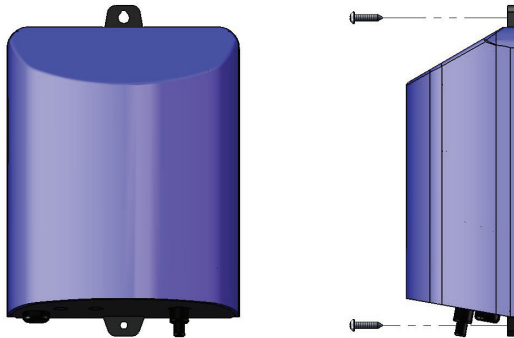

Figure 1: Wall Mount
- Install at least 5 feet (1.5 meters) from wall of pool. Install ozone generator no less than one (1) foot above maximum water level to prevent water from contacting electrical equipment. Install in accordance with the installation instructions.
- The ozone generator must be installed in an outdoor location, or indoors in a forced air ventilated room, and installed so that the orientation is exactly as shown in Figure 1.
Figure 1. Mount generator in a clean, protected area, either indoors or outdoors (preferably out of direct sunlight). Locate generator out of reach of sprinklers or drainage spouts. Allow sufficient access for maintenance and all tubing and electrical wires. Ozone generator should be installed at least (not less than) one foot above the maximum water level. See Section 2D-2, Ozone Gas Line, for plumbing instructions based on mounting location.
- Refer to Figure 1 to mark the locations for the two mounting screws.